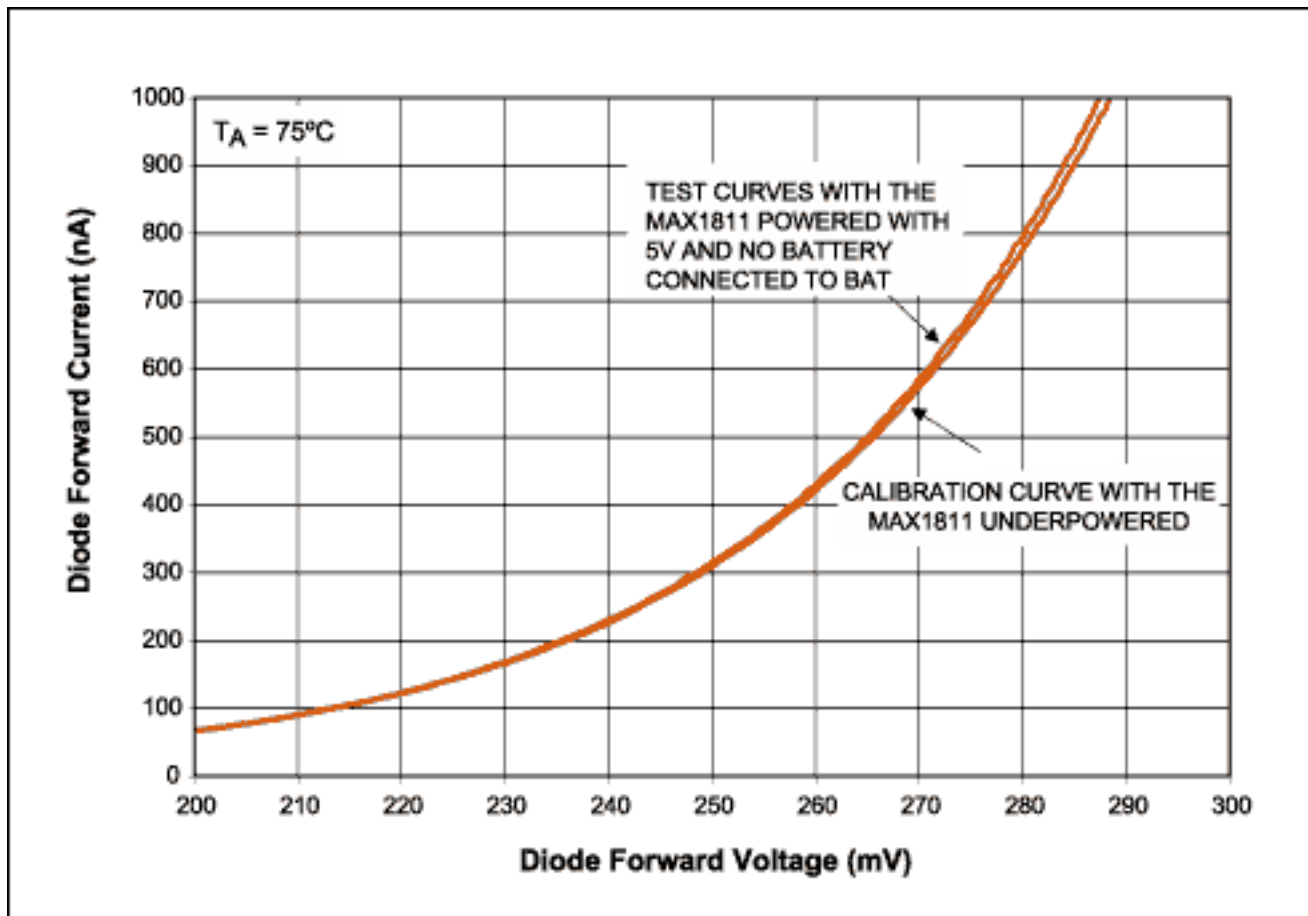

Figure 5. Test curve for the MAX1811 under power shows no major shifts in diode forward voltage, which ensures trustworthy data.
**Figure 5** compares a characterization curve for the MAX1811 ( $T_A = 75^\circ\text{C}$ ) with a test curve at  $T_A = 75^\circ\text{C}$  for the part powered in its quiescent state. When powered from 5V in its quiescent state, the MAX1811 draws approximately 1mA. Using the  $\theta_{JA}$  value given by Maxim (57 $^\circ\text{C}/\text{W}$ ), this 5mW power dissipation should produce a junction rise above ambient of 0.3 $^\circ\text{C}$ . Because the test curve in Figure 5 shows a slight rise in temperature without major shifts in the curve shape, the calibration data is deemed trustworthy.